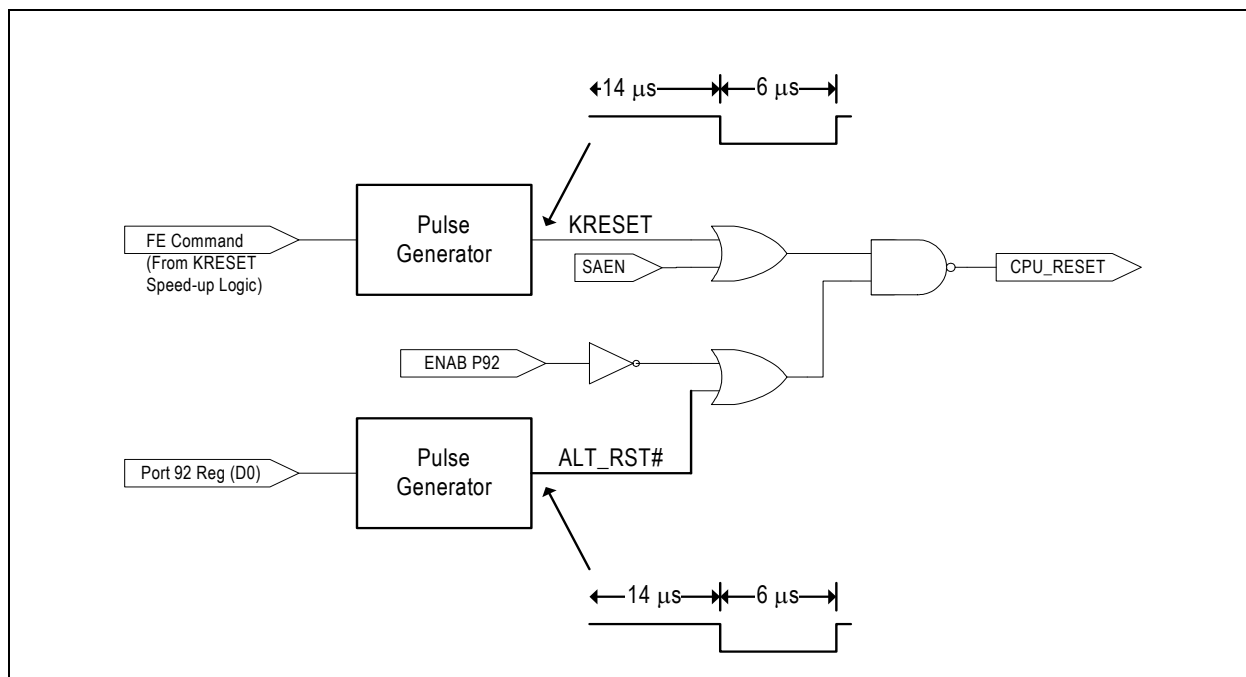
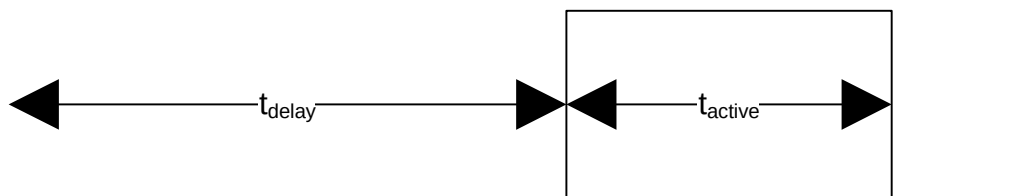

**Figure 10.4 CPU\_RESET Implementation Diagram**
**Figure 10.14 CPU\_RESET timing**
**Note 10.15** Figure 10.14 & Table 10.21 refers to Figure 10.4 in which CPU\_RESET is the inverse of ALT\_RST# & KRESET.
| 1.                                                                                                                                                                                                                                          |              | 04/23/2007 | <a href="#">Figure 10.4 CPU_RESET Implementation Diagram on page 210</a><a href="#">Figure 10.14 Table 10.21, Note 10.15, Note 10.11 on page 208</a><a href="#">Table 10.17, "GATEA20 Control Register," on page 205</a><a href="#">Table 10.14 on page 202</a><a href="#">Table 10.17 on page 205</a><a href="#">Table 10.19 on page 207</a><a href="#">Table 10.20 on page 207</a> | <ul style="list-style-type: none"> <li>■ Change AND gate to NAND gate</li> <li>■ Added to Clarify CPU_RESET requirements</li> <li>■ Host Commands (FF, FE, &amp; D1) do not cause IBF.</li> <li>■ Change default from 0h to 1h.</li> <li>■ Change <a href="#">GATEA20 Control Register</a>, <a href="#">SETGA20L Register</a>, <a href="#">RSTGA20L Register</a> AHB address offsets from 110h, 118h, &amp; 11Ch to 100h, 108h, &amp; 10Ch.</li> </ul> |